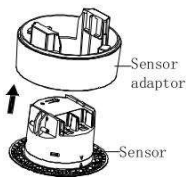

Fig. 7
(7) Align the sensor adaptor snap assembly position and install the sensor into the sensor adaptor. As shown in Fig. 7.